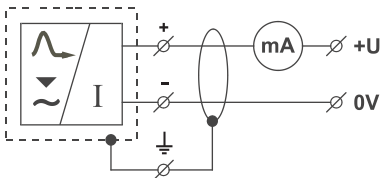
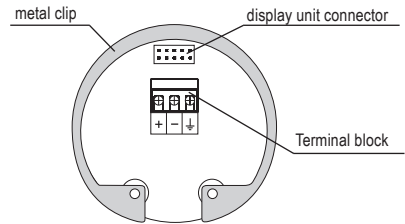

Fig. 31: Wiring diagram of the level meter with current output GRLM-70 _ _ _ - I
Fig. 32: Inside view of screw terminals of the level meter with current output GRLM-70 _ _ _ - I
5. Connect the cable to the screw terminals Fig. 32 or 34 according to the diagram in Fig. 31 or 33. Firmly tighten the terminals and the cable outlet. Tightening torque see. Technical parameters p. 57.
In the event of strong ambient electromagnetic interference, paralleling of conductors with power distribution, or for distribution to distances over 30 m, we recommend grounding the level meter (see above) and using a shielded cable. Ground the shielding of the cable on the side of the power supply, or the shielding is possible to connect only on inside pin of the level meter marked \ominus see fig. 32 and 34 (the shielding of the cable is always connected in a single location).